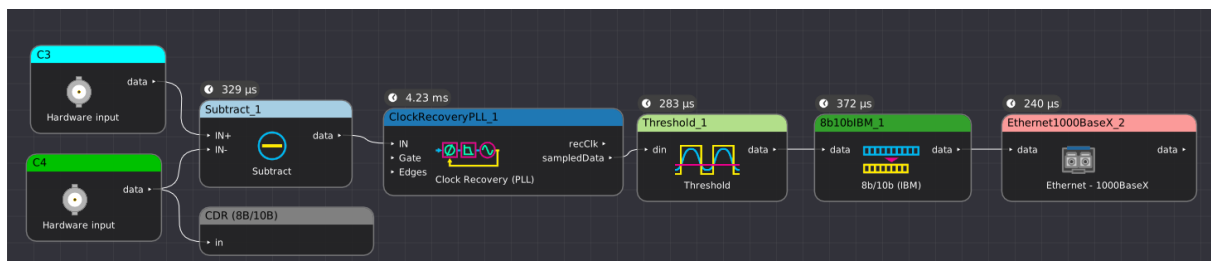

Figure 26.8: Example filter graph using 8b/10b to decode a differential 1000base-X link
- **v0.2:** This filter no longer needs the clock input that was required in v0.1. Instead, threshold the sampledData output of the Clock Recovery \(PLL\) and pass this to the 8b/10b decode, as shown in Fig. 26.8.